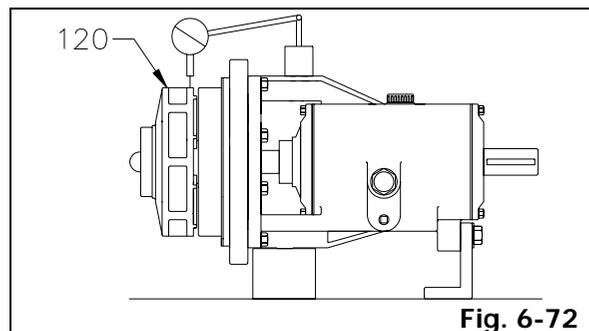

Fig. 6-72
6. Check impeller (120) run out. Rotate impeller (120) through 360°. If total indicator reading is greater than 0.13mm, determine cause and correct before proceeding (Fig. 6-72).